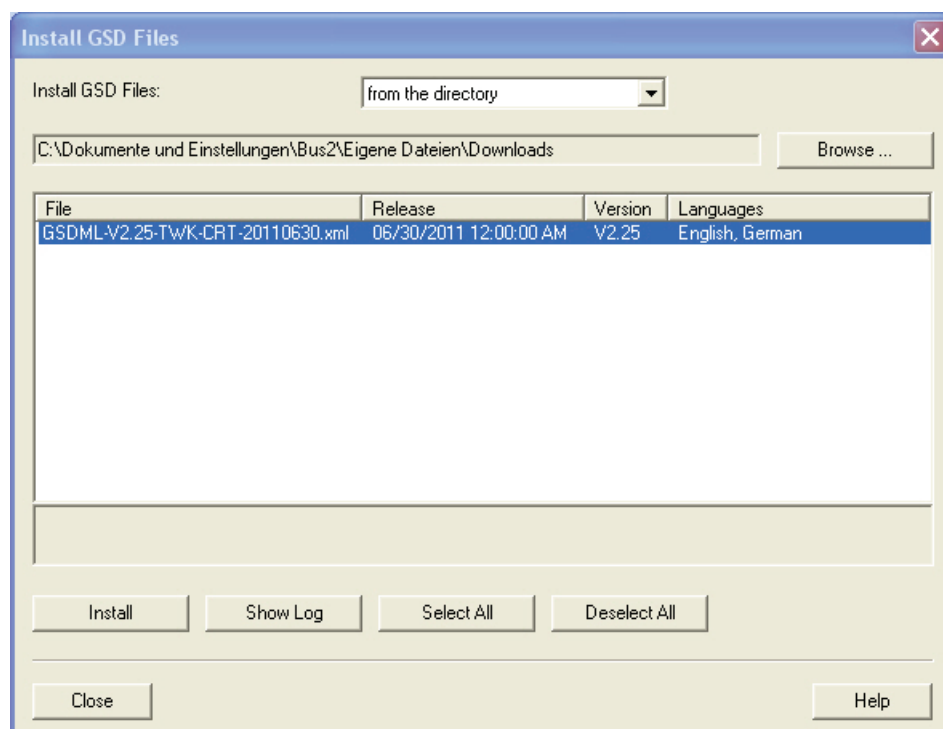

Fig.: 3
- Set "from the directory", "browse" to your GSD file and click on "Install" (see Figure 3).